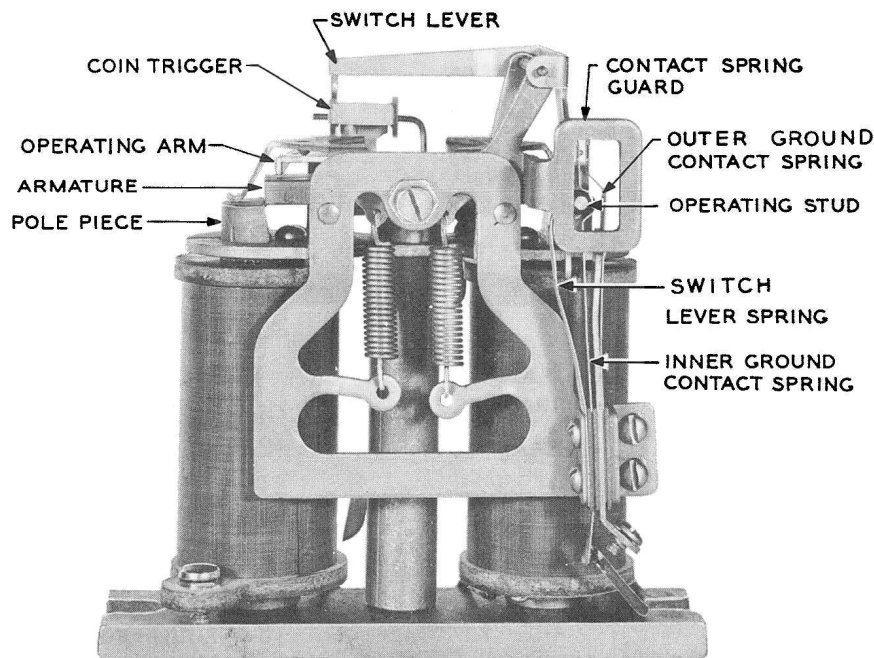

Fig. 1 — P-145749 Coin Relay
1.01 This section covers specific items of maintenance required for prepay coin collectors arranged for 10-cent operation. These items cover the two-coil coin relay and coin hopper (see Fig. 1 and 2). In addition, see section on general maintenance of coin collectors.